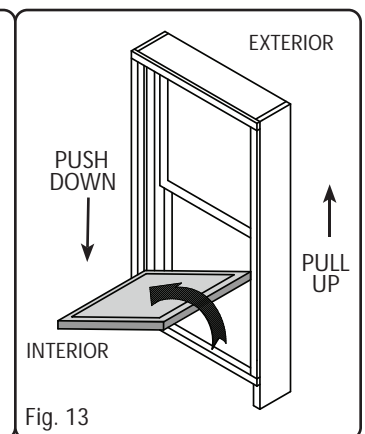

Fig. 13
1. With the interior side of the top sash facing the floor, grasp each side firmly (Fig. 13).